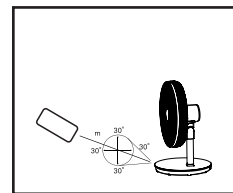

Fig. 14
4. Please use the remote control at the control zone as shown in (Fig 14). The signal receiver is in the front of the control panel. The control zone is around 3 meters and 30 degrees from the Fan Base.